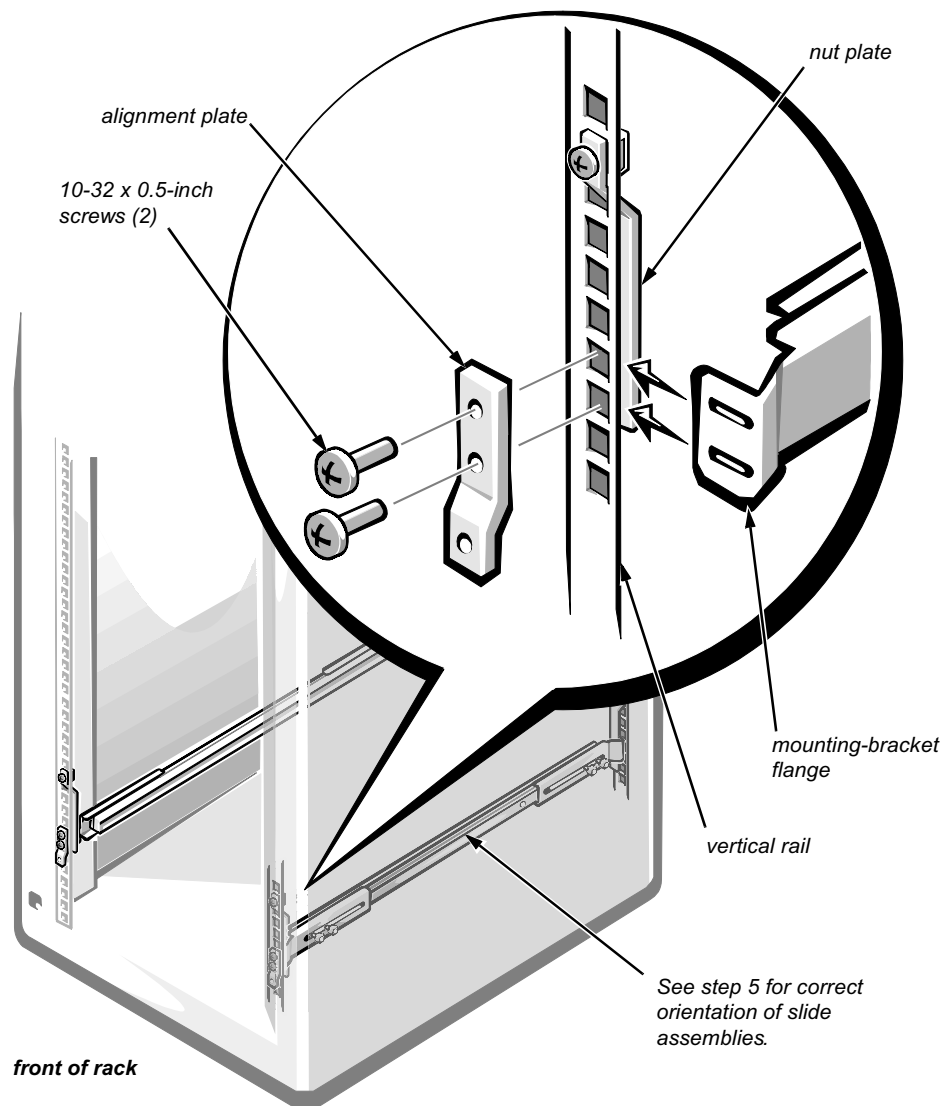

Figure 7. Installing the Slide Assemblies
4. Using a Phillips screwdriver, slightly loosen the two screws that hold the back slide-mounting bracket to the exterior slide (see Figure 7).
- Insert the slide's mounting-bracket flanges between the nut plates and the rack's vertical rails as shown in Figure 7.
- Position the mounting bracket at the back of the slide assembly so that its two slots are aligned with the two lowest holes in the nut plate (see Figure 7). Secure the mounting bracket with two 10-32 x 0.5-inch
- c. Insert a 10-32 x 0.5-inch Phillips screw through the alignment plate. Position the mounting bracket at the front of the slide assembly so that its two slots are aligned with the two lowest holes in the nut plate, and install the alignment plate (see Figure 7). Secure the alignment plate and mounting bracket using a second 10-32 x 0.5-inch Phillips screw.
The slotted holes in the slide-mounting brackets (see Figure 7) allow for adjustment if the width between the slide assemblies is not correct. Adjust the width so that the tray slides into place easily.